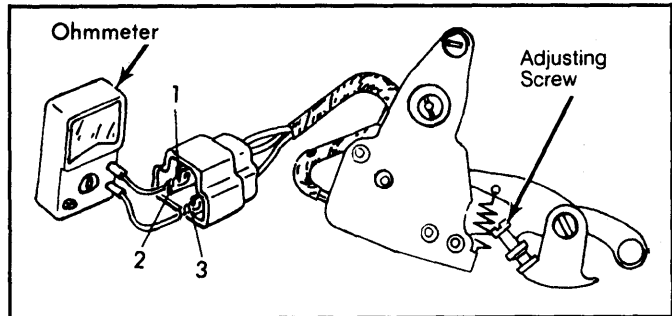

Fig. 9: Idle Switch Continuity Test
- 2) If not, remove limiter cap on switch. Connect tachometer to engine. Connect ohmmeter to switch terminals No. 1 and 3. See Fig. 9. With automatic transmission in Neutral, start engine.